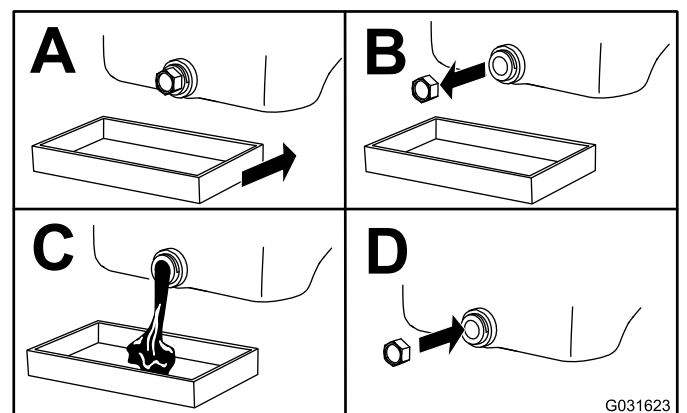

Figure 48
3. Change the engine oil as shown in Figure 48.